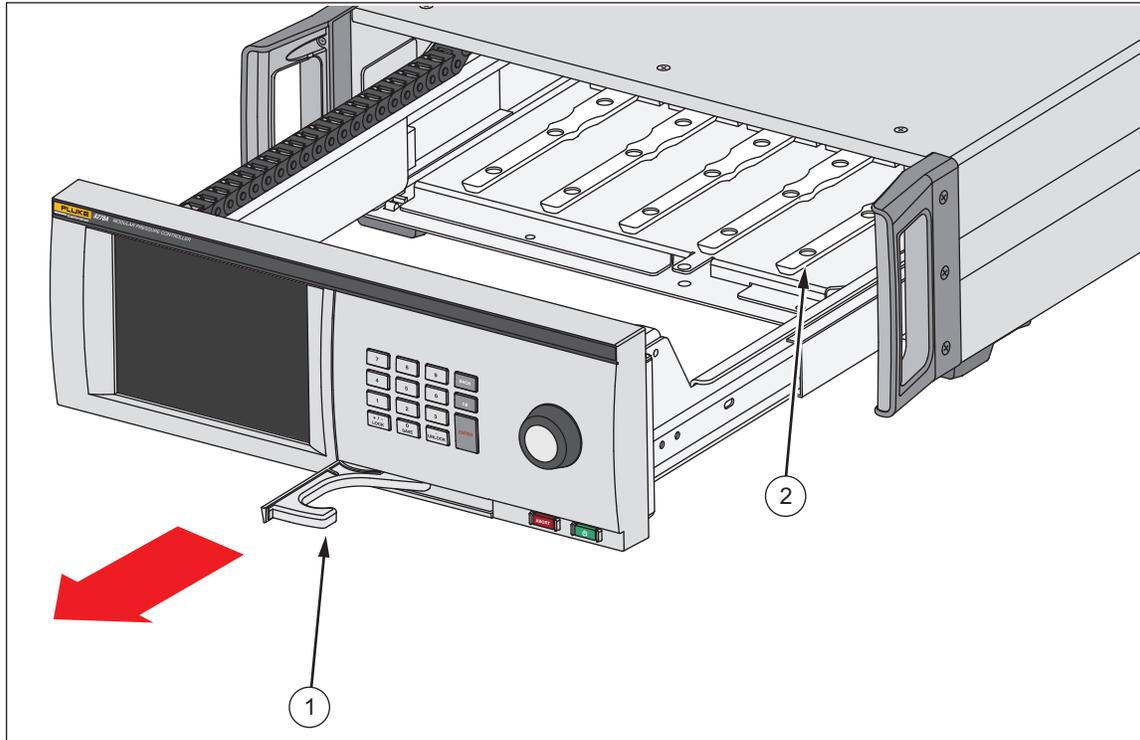
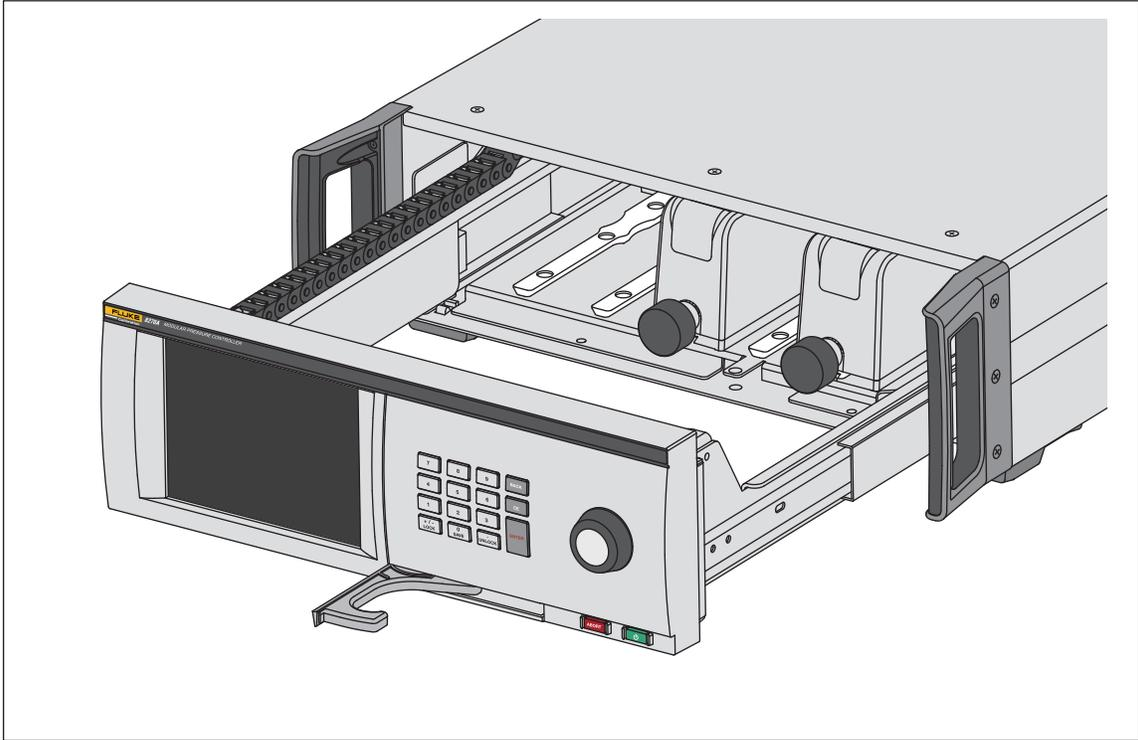

Figure 1. Module Bay
Figure 2. PMM Installation
To access the Module Bay, see Figure 1:
5. The PMM has a slot on the bottom of it that fits into the track that lies on the bottom of the inner Product case, see Figure 1 (②). Line the track up with the slot and slide the PMM into the bottom case until it stops. See Figure 2.